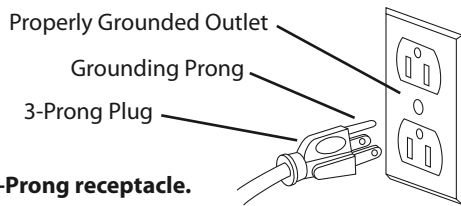

Figure 12 – 3-Prong receptacle.
- This tool is equipped with an approved 3-conductor cord rated at 300V and a 3-prong grounding type plug (Figure 12) for your protection against shock hazards.
- Grounding plug should be plugged directly into a properly installed and grounded 3-prong grounding-type receptacle, as shown (Figure 12).